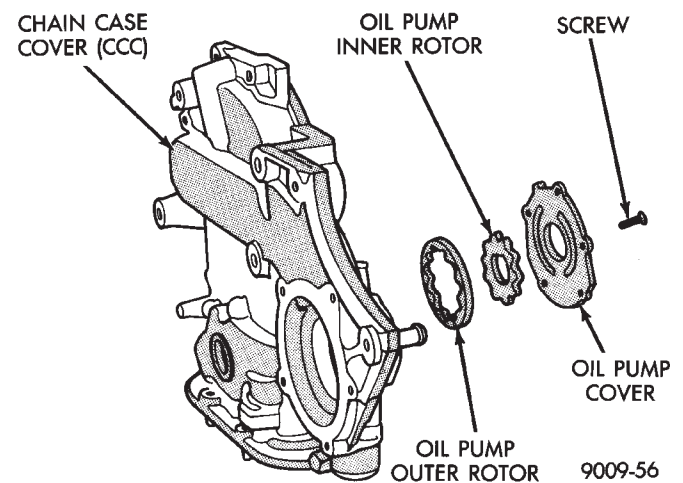

Fig. 6 Oil Pump
- (2) Remove oil pump cover screws, and lift off cover.
- (3) Remove pump rotors.
- (4) Wash all parts in a suitable solvent and inspect carefully for damage or wear (Fig. 6).